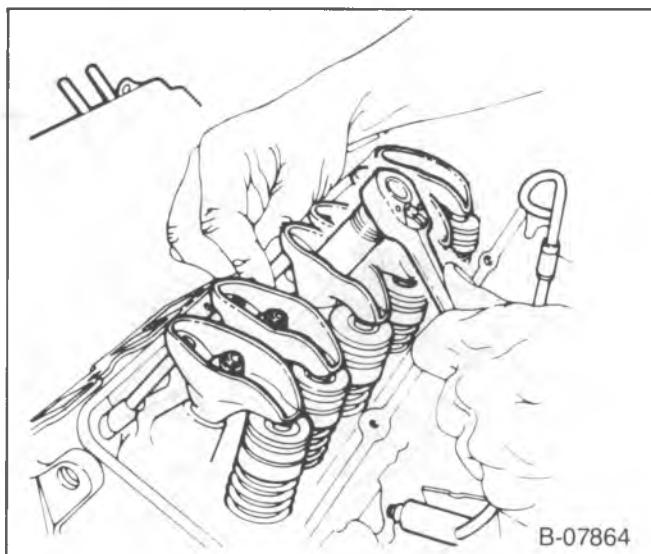

Figure 41—Adjusting the Valves
3. Back out the adjusting nut until lash if felt at the pushrod then turn in the adjusting nut until all lash is removed. This can be determined by rotating the pushrod while turning the adjusting nut (figure 41). When the play has been removed, turn the adjusting nut in one and one-half additional turns (to center the lifter plunger).